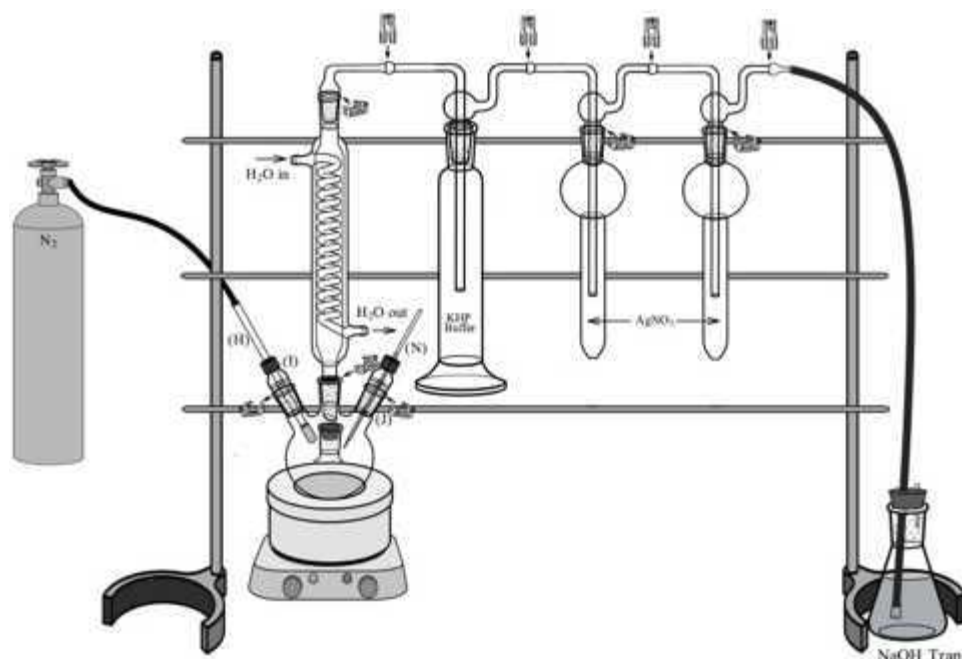

Figure 8 - Distillation setup showing N2 gas and temperature probe connections
- 8** Carefully remove from the distillation apparatus the Four-Necks Round Bottom Flask (A), the Buffer Bottle (D), and Traps 1 (F+E) and 2 (G+E').
- 9 Fill Buffer Bottle (D) with 200 mL of 0.05 M KHP Buffer. Secure the gas dispersion tube to the wash bottle using metal springs (S). Re-attach to the distillation apparatus.
- 10 Fill traps 1 (E + F) and 2 (E' + G) with 15 ml of 0.1 M AgNO3. Secure the orifice (F) and fritted (G) tubes to the traps with metal clips (R). Re-attach to the the distillation apparatus.
- 11 Secure the connections between the Connection adapter (C), Gas Washing Bottle (D), Orifice Tube (F), Fritted Tube (G) and Hose Connection Adapter (L) with stainless steel Pinch-Type Clamps (Q) (see Figure 8).
- 13 Transfer the sediment sample to a glove box, if available. If not, place a glove bag (T) on the benchtop and connect it to a source of Nitrogen gas using the plastic coupler provided and a length of plastic tubing.
- 14 Purge the glove bag for 3-5 minutes with N2 gas while inserting the following equipment: the four-neck round bottom flask from the distillation apparatus (A), a beaker for supporting the thawed sediment sample tube, a balance, a spatula, four rubber septa (P), and a stir bar.
- 16 Using the gloves on the bag, place the Four-Necks Round Bottom Flask (A) on the balance and zero it.
- 17 Carefully transfer ~10 g of thawed sediment sample to the zeroed Four-Neck Round Bottom Flask (A) through one of the middle stems. Record weight to the nearest 0.1 mg.
- 18 Add the stir bar to the Four-Necks Round Bottom Flask (A) and close all four openings with rubber septa (P).
- 19 Open the nitrogen-filled glove bag and take the closed Four-Necks Round Bottom Flask (A) back to the fume hood.
- 20 Insert the Temperature Sensor (N) all the way into the bushing associated with the mini-adaper (J). Add a #008 FETFE O-ring to the tip of the sensor and push up until it makes contact with the bushing. Screw the probe/bushing/O-ring combo into the #7 (24/40) glass mini-adapter (J). Connect the plug of the sensor into the temperature controller.
- 21 Take the N2 Gas Dispersion Tube (H) and insert its fritted tip into the bushing associated with the midi-adapter (I). Add a #012 FETFE O-ring to the fritted end and push it up until it makes contact with the bushing. Screw the tube/bushing/O-ring combo into the #11 glass Midi-Adapter (I). Attach the other end of the tube (H) to the hose connected to a N2 source. Start a **very light** gas flow. (Our standard for very light is one where we can barely feel the gas pressure from the dispersion tube on our cheek).
**23** Quickly connect the Four-Necked Round Bottom Flask (A) to the Coiled Condenser (B). Next, insert the Mini-Adapter (J) with the Temperature Sensor into one of the two remaining openings of the Four-Necks Round Bottom Flask (A). Leave the remaining opening closed with a rubber septa (P). Secure the Mini-adapter (J), Midi-adapter (H) and Coiled Condenser (B) to the necks of the flask with metal clips (R).
**24** Connect water in and out hoses to the corresponding inlets from the Coiled Condenser (B) (see Figure 8). Start the water flow.